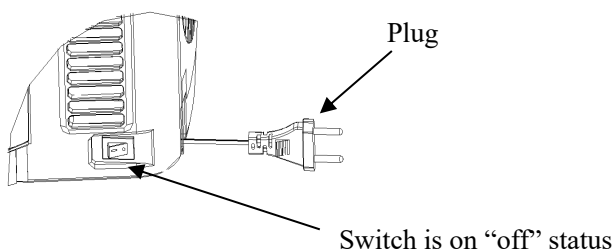

Figure 12
3. Turn on the power switch to "I" position to power on the beer cooler. (While "0" position is to power off) (Show as figure12).